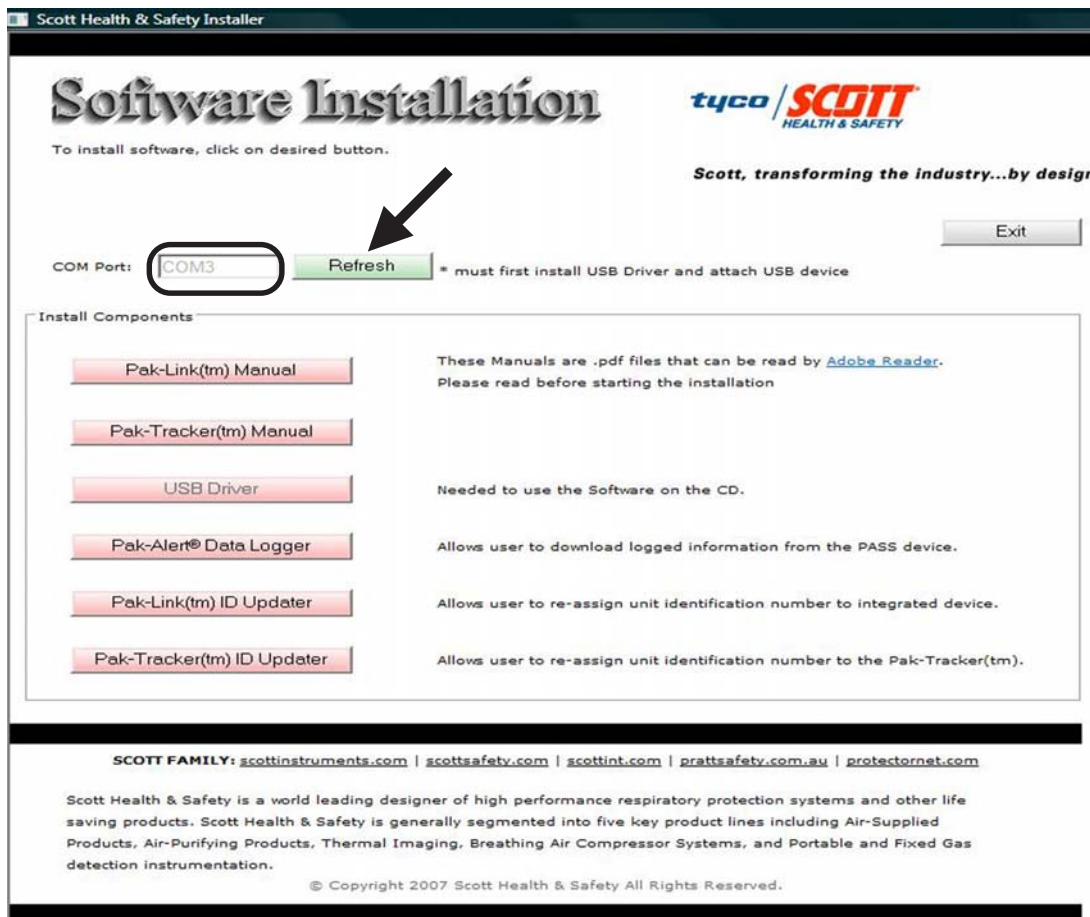

FIGURE 3
4. Next to "COM Port," click the "Refresh" button to display the COM Port that has been assigned to the USB Connection. See FIGURE 3.
5. Make a note of the number of the COM Port that appears. See FIGURE 3.